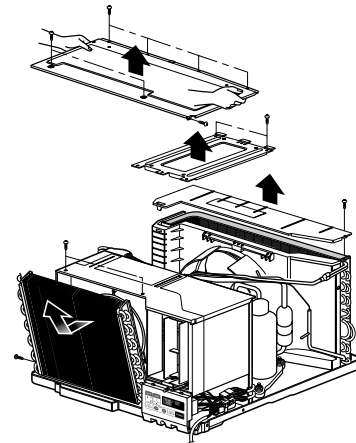

Figure 19
4. Remove the covers and the brace. (See Fig. 19)